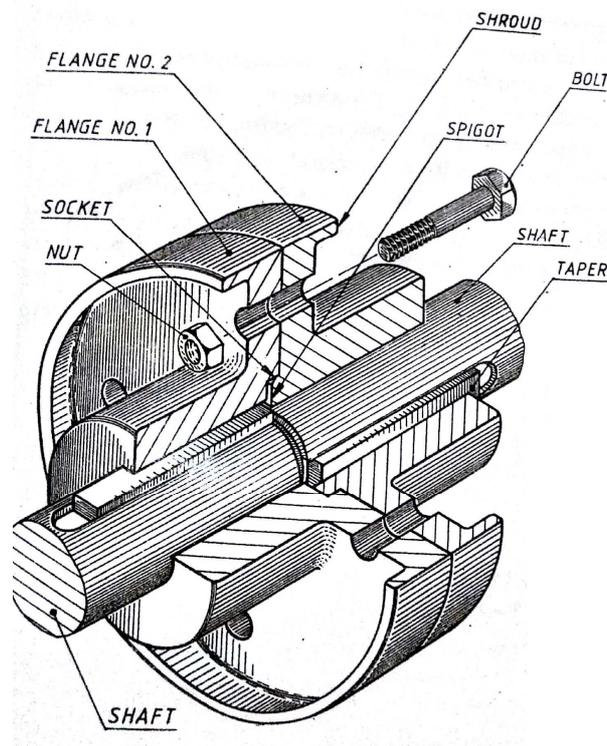

Figure 1. Flanged coupling –Protected type
11. a) The below Fig1 shows the assembled view of Flanged Coupling –protected type in half section with the proportions expressed in terms of the diameter “d” of the shafts. Prepare the working drawing indicating the appropriate dimensions with the tolerances wherever necessary for the following details, assuming d=30 mm. For the socket, and the shafts and flanges, the push fit is suggested. For keys and Keyways, light keying fit, and for bolts and bolts holes and close running fir are recommended.
b) The below fig 1 shows the pictorial view of KUNCKLE JOINT. Assemble all the parts and draw the following views.